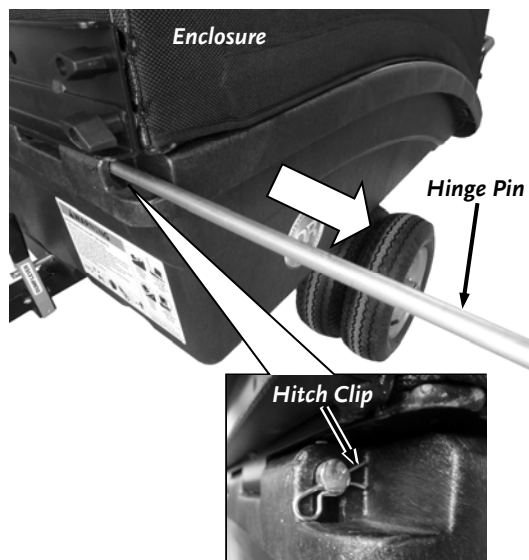

Figure 76
6. Remove the Hitch Clip from one end of the Hinge Pin and from the other end pull the Hinge Pin from the Cart/Enclosure Hinge (**Figure 76**).